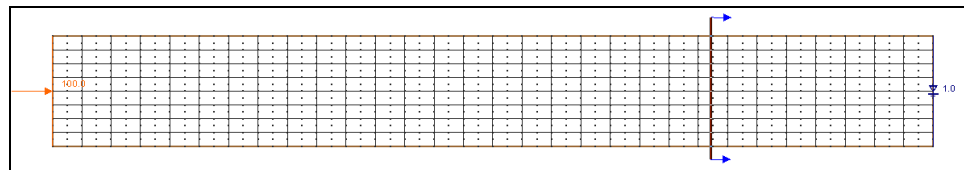

Figure 13 Placement of observation arc
5. Using the **Create Feature Arc**  tool, create a vertical arc about 200 meters from the downstream boundary of the flume (Figure 13).